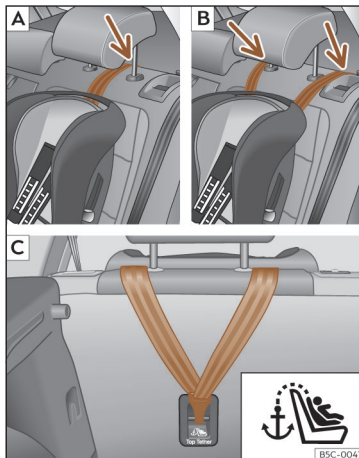
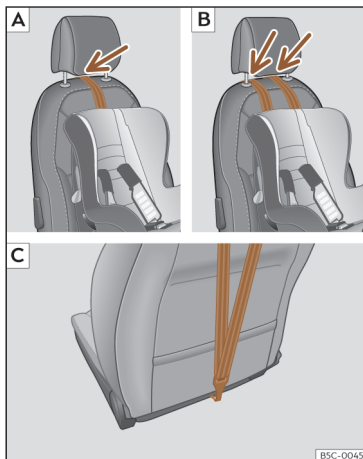

Fig. 29 Rear seats: adjustment and assembly according to the Top Tether belt.
Fig. 30 Front passenger seat: adjustment and assembly according to the Top Tether belt.
- Position the belt under the headrest (depending on the instructions of the seat itself, lift or remove the headrest if necessary) >>> Fig. 29 [A]/[B], >>> Fig. 30 [A]/[B].
- Slide the strap and secure it properly with the anchorage of the backrest >>> Fig. 29 [C], >>> Fig. 30 [C].